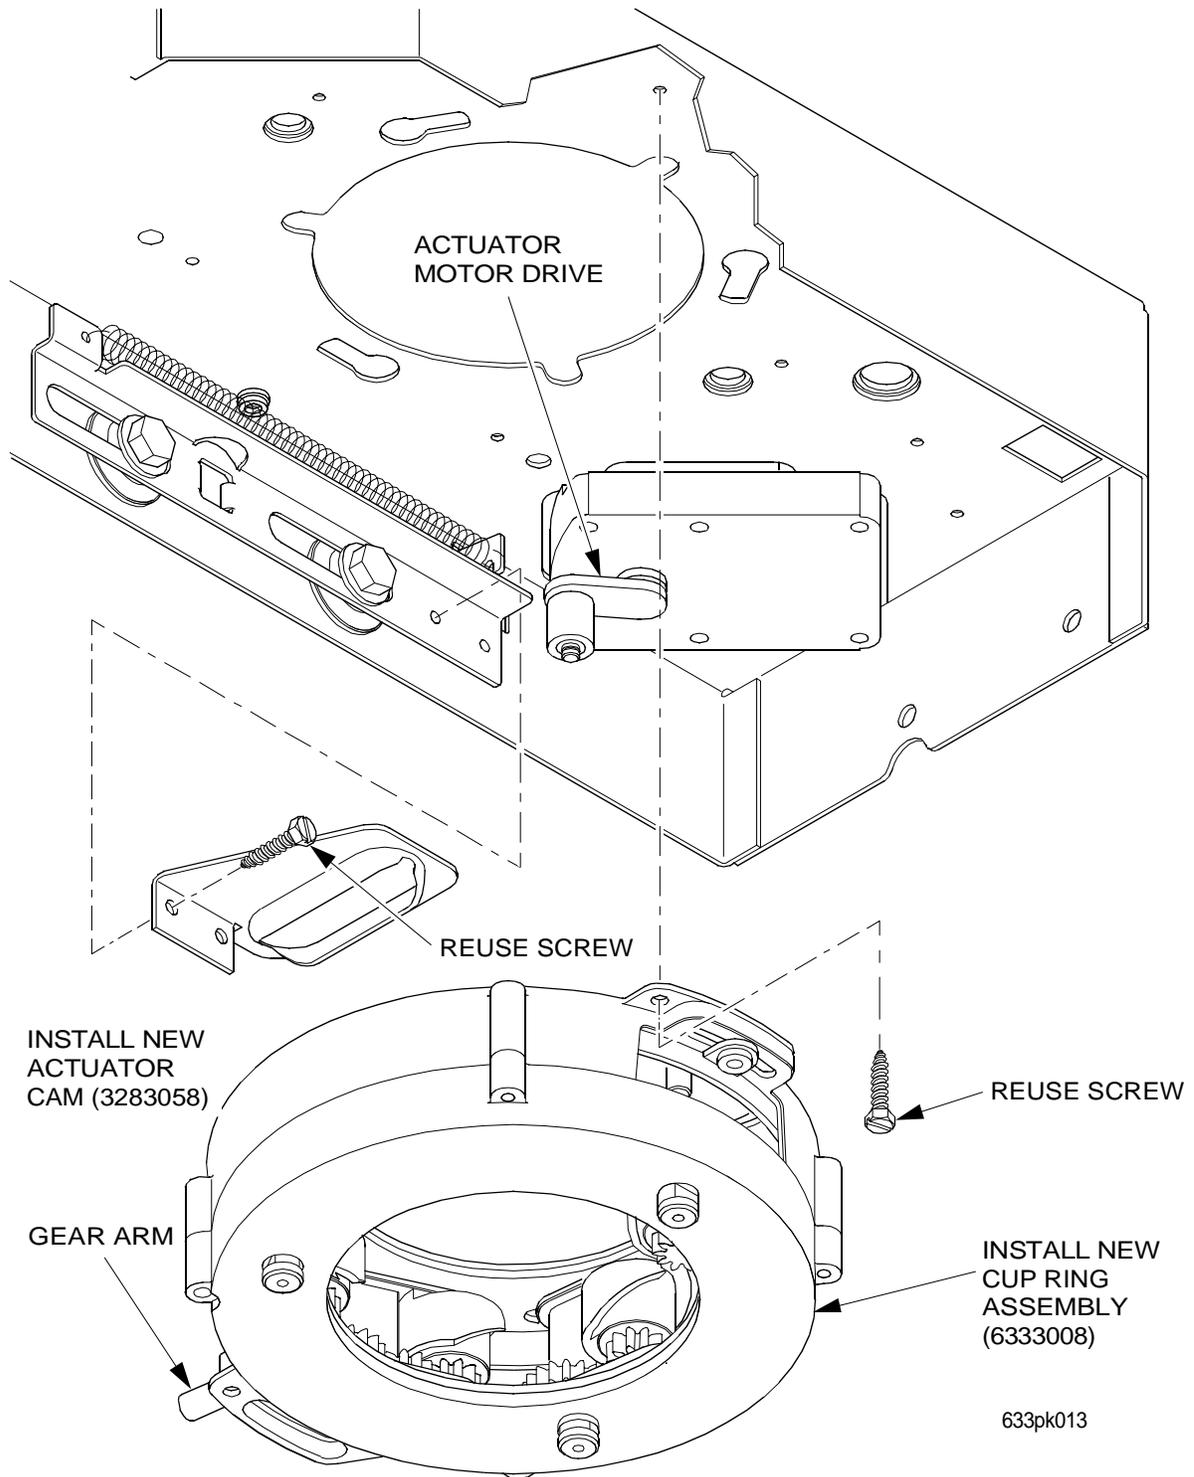

Figure 2
1. Capture the actuator motor drive arm in the new cam actuator slot as shown (figures 2 and 3).
1. Locate the new cup ring assembly in keyhole slots of the mounting bracket. Make sure to capture the gear arm in the proper hole in the actuator while assembling as shown (figures 2 and 3).